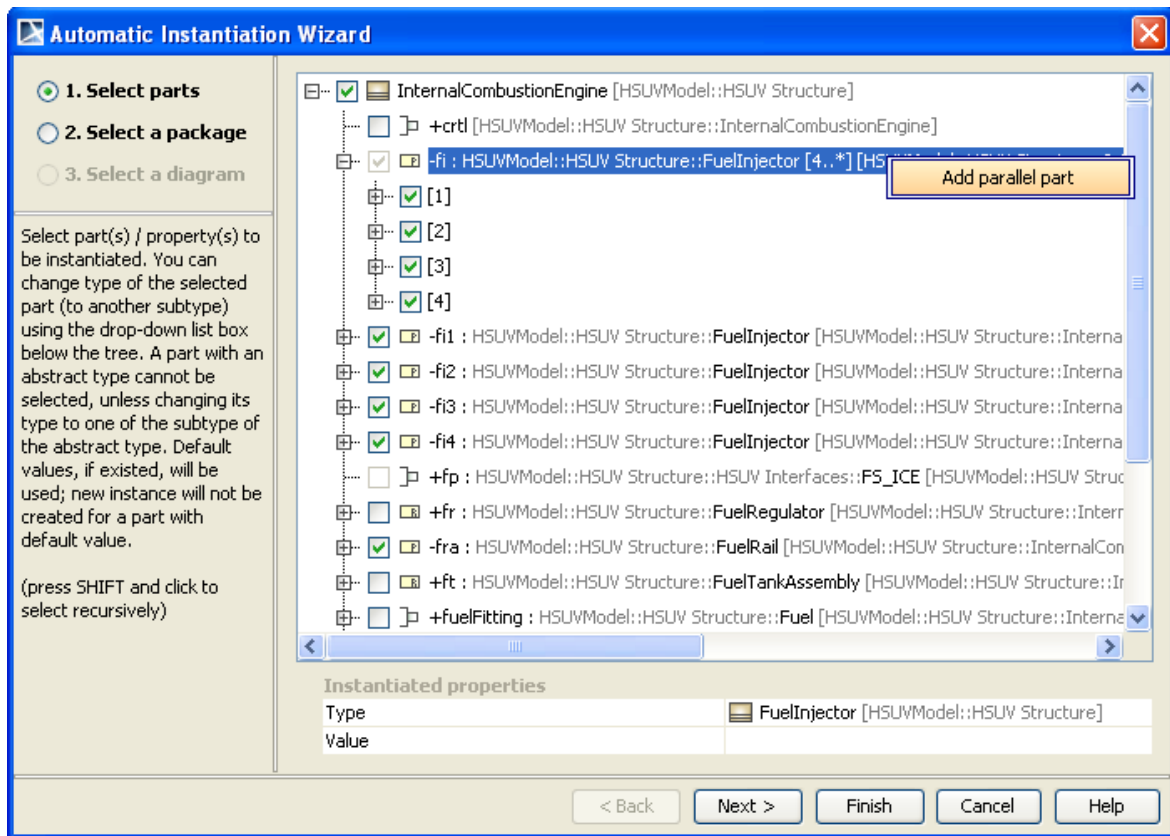
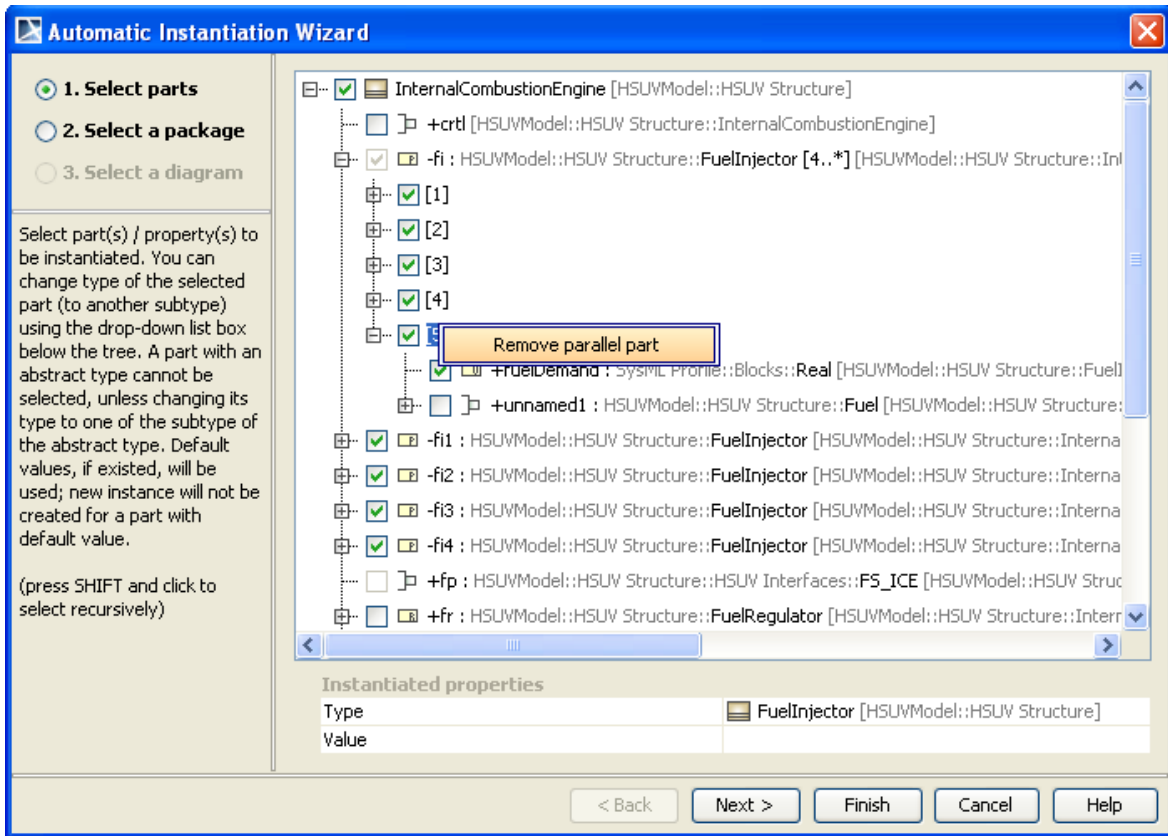

Figure 26 -- Adding More Instance Values
Figure 27 -- Removing Instance Value
3. The slot for the property with multiplicity greater than 1 ([0..*], [4], [1..5]), can contain more than one instance value. You can add more instance values to the slot of this property by right-clicking the property and select **Add parallel part** (Figure 26). A new node with the index of the instance value to be created will be listed under the selected property. You can also remove the instance value by right-clicking the node of the instance value and select **Remove parallel part** (Figure 27).